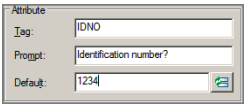

FIGURE 15.11 Creating another attribute definition
- 9. Press the spacebar to repeat the ATTDEF command. Type **IDNO** as the tag, **Identification number?** as the prompt, and **1234** as the default (see Figure 15.11). Set Justification to Middle Center and click OK. Click the midpoint of the lower diagonal line at point E in Figure 15.8.